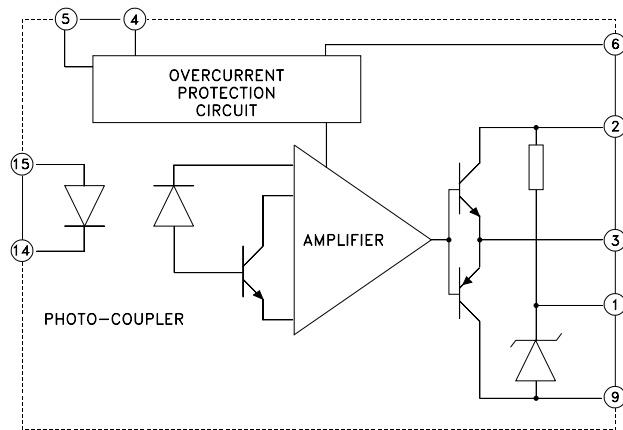

Figure 1. IGBT Driver, Pin Description and Schematic
5.3.1 The control chassis contains the main power inverters, bias, and control circuitry. The diagram of Figure 1 depicts the basic functional blocks. Note that in the case of the three phase units, only one phase is illustrated as the others are identical. The circuitry is configured so that each of the three "Phase Control Cards" plug into a "Motherboard". The output devices and output filter components are mounted on separate assemblies.
The insulated gate bipolar transistor (IGBT) driver is a hybrid IC that is used in the over-current detector circuit of each BL6000 unit. Two of these drivers are used in each unit to provide signal isolation, over-current detection, and low-speed over-current cutoff features. Figure 1 shows the internal parts of an IGBT driver and its pin descriptions.